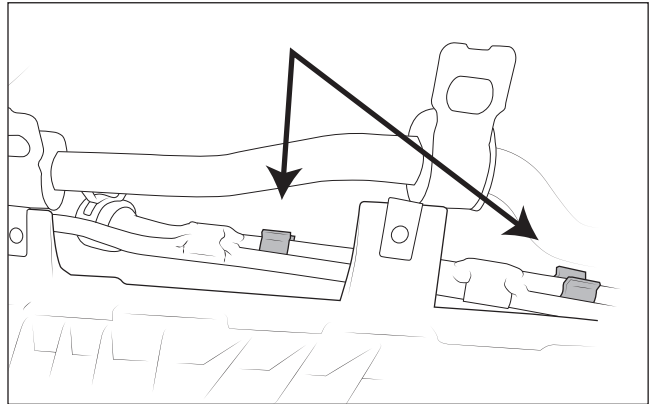

Figure 13
- d. Remove the clips holding the air conditioning lines to the air box (Fig. 13).